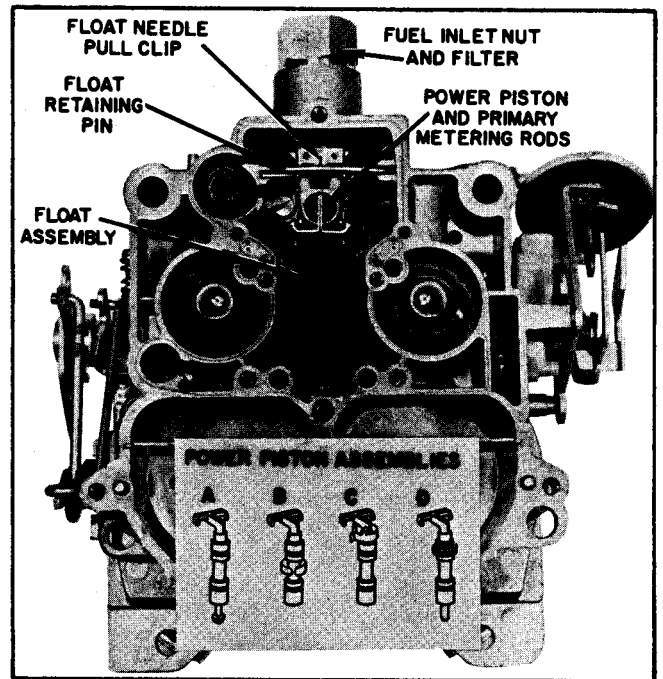

Figure 51 Power Piston Assemblies
6. Remove main power piston and metering rods as an assembly. There are four different types of power piston retainers used (Figure 51).